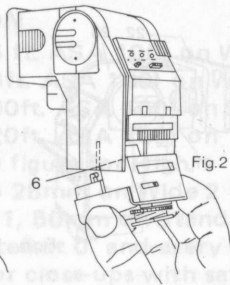
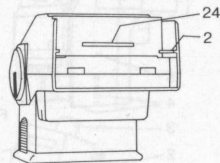

Fig.2
Fig. 9
3. The flashgun has ribs (4) one in each side of its lower housing which have to engage in slots (2) in the module. Further, the gun has a slot (24, fig 9) to accept the circuit board tongue (3) of the module. Therefore enter the module into the gun housing so that the corners (6) just rest on the start of the ribs as in Figure 2.